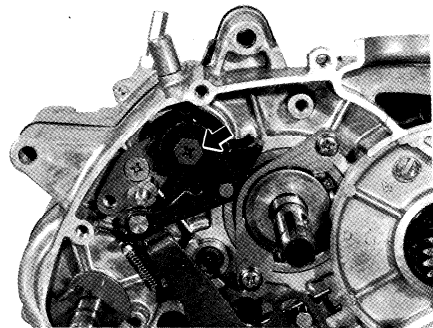

Fig. 5-4-20
20. After removing the gear shifting cam retainer bolt with a cross driver, Pull up the gear shifting shaft by hand while pressing back the gear shifting pawl with fingers. (Fig. 5-4-20, 21)